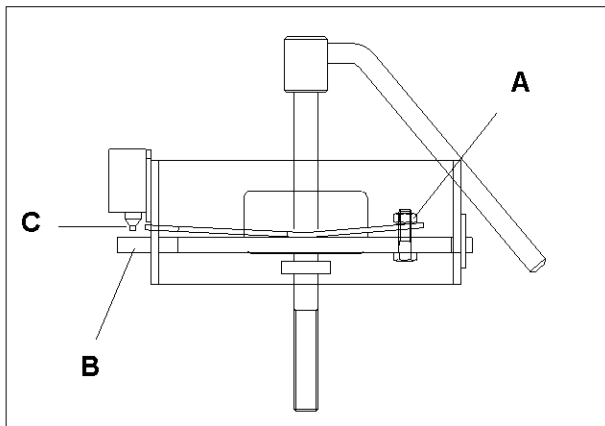

Fig. 51
The automatic, hydraulic depth control (fig. 51) reduces pressure on the diabolos. Two micro switches fitted in front of the machine monitor the lifting unit (share) position. Signals from the switches are fed into the computer (black box).
The pressure on the diabolos is altered by moving the micro switches, see screw shown at fig. 51/A. To increase pressure tighten the screw.
When fitting automatic depth control (fig. 51) avoid damaging the micro switches. The procedure is as follows; loosen screw (A), raise the end plate (B), press the micro switch pin (C) all the way in. In this position let the pin rest against the end plate. Now adjust with screw (A) to find desired position (diabolo pressure).